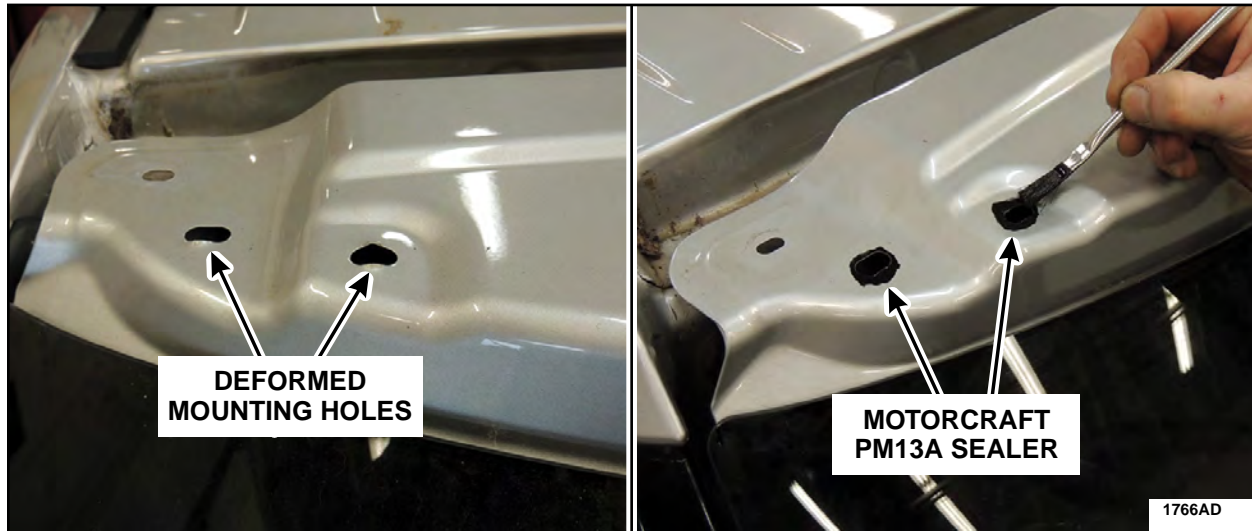

FIGURE 14
- Using a flat faced hammer, carefully straighten any deformed spoiler retaining clip mounting holes and apply Motorcraft® PM13A sealer. See Figure 14.